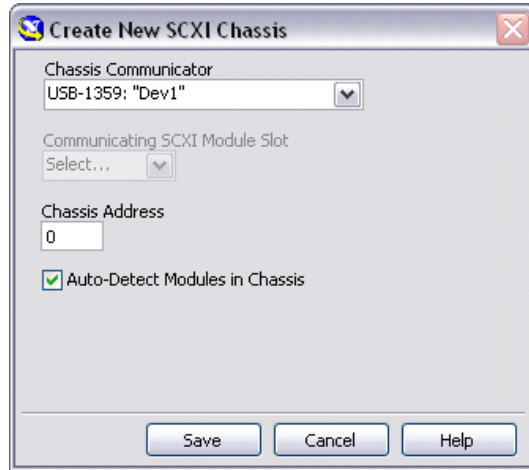

Figure 7. Configuring the Create New SCXI Dialog Box
3. Select **NI-DAQmx SCXI Chassis**, and choose the chassis. The Create New SCXI Chassis dialog box opens as shown in Figure 7.